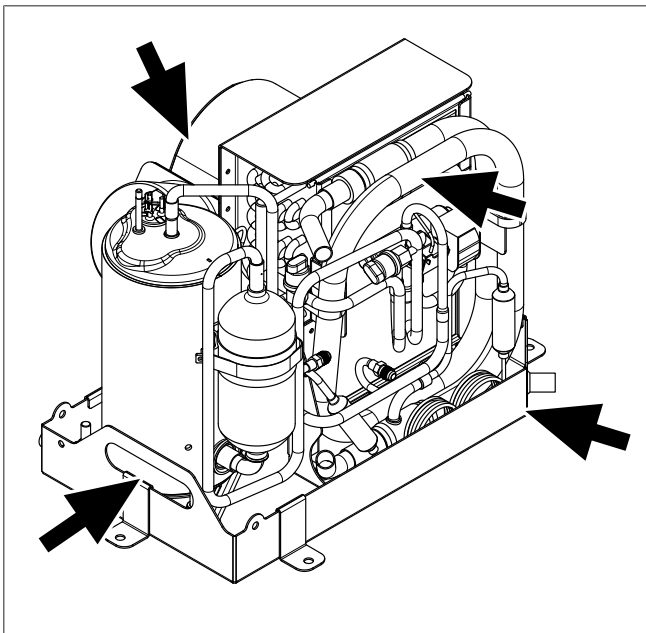

Fig. 5 Transport the unit
- ▶ Only carry the unit by the condensed-water tray, by the fan or by the upper pipe elbows of the condenser. Never grasp and carry the unit by other pipes. See Fig. 5.